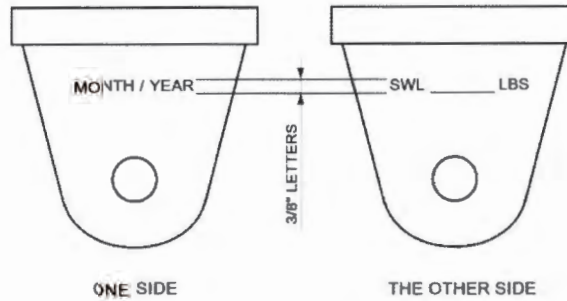

Figure 6-1: Marking (TYP)
- 6-1 **PADEYE MARKING** After satisfactory test, stamp the padeye in the area indicated on the Figure 6-1 with the date of test on one side and the safe working load of the padeye on the other. Record the date of marking in the TEST DATA SHEET.